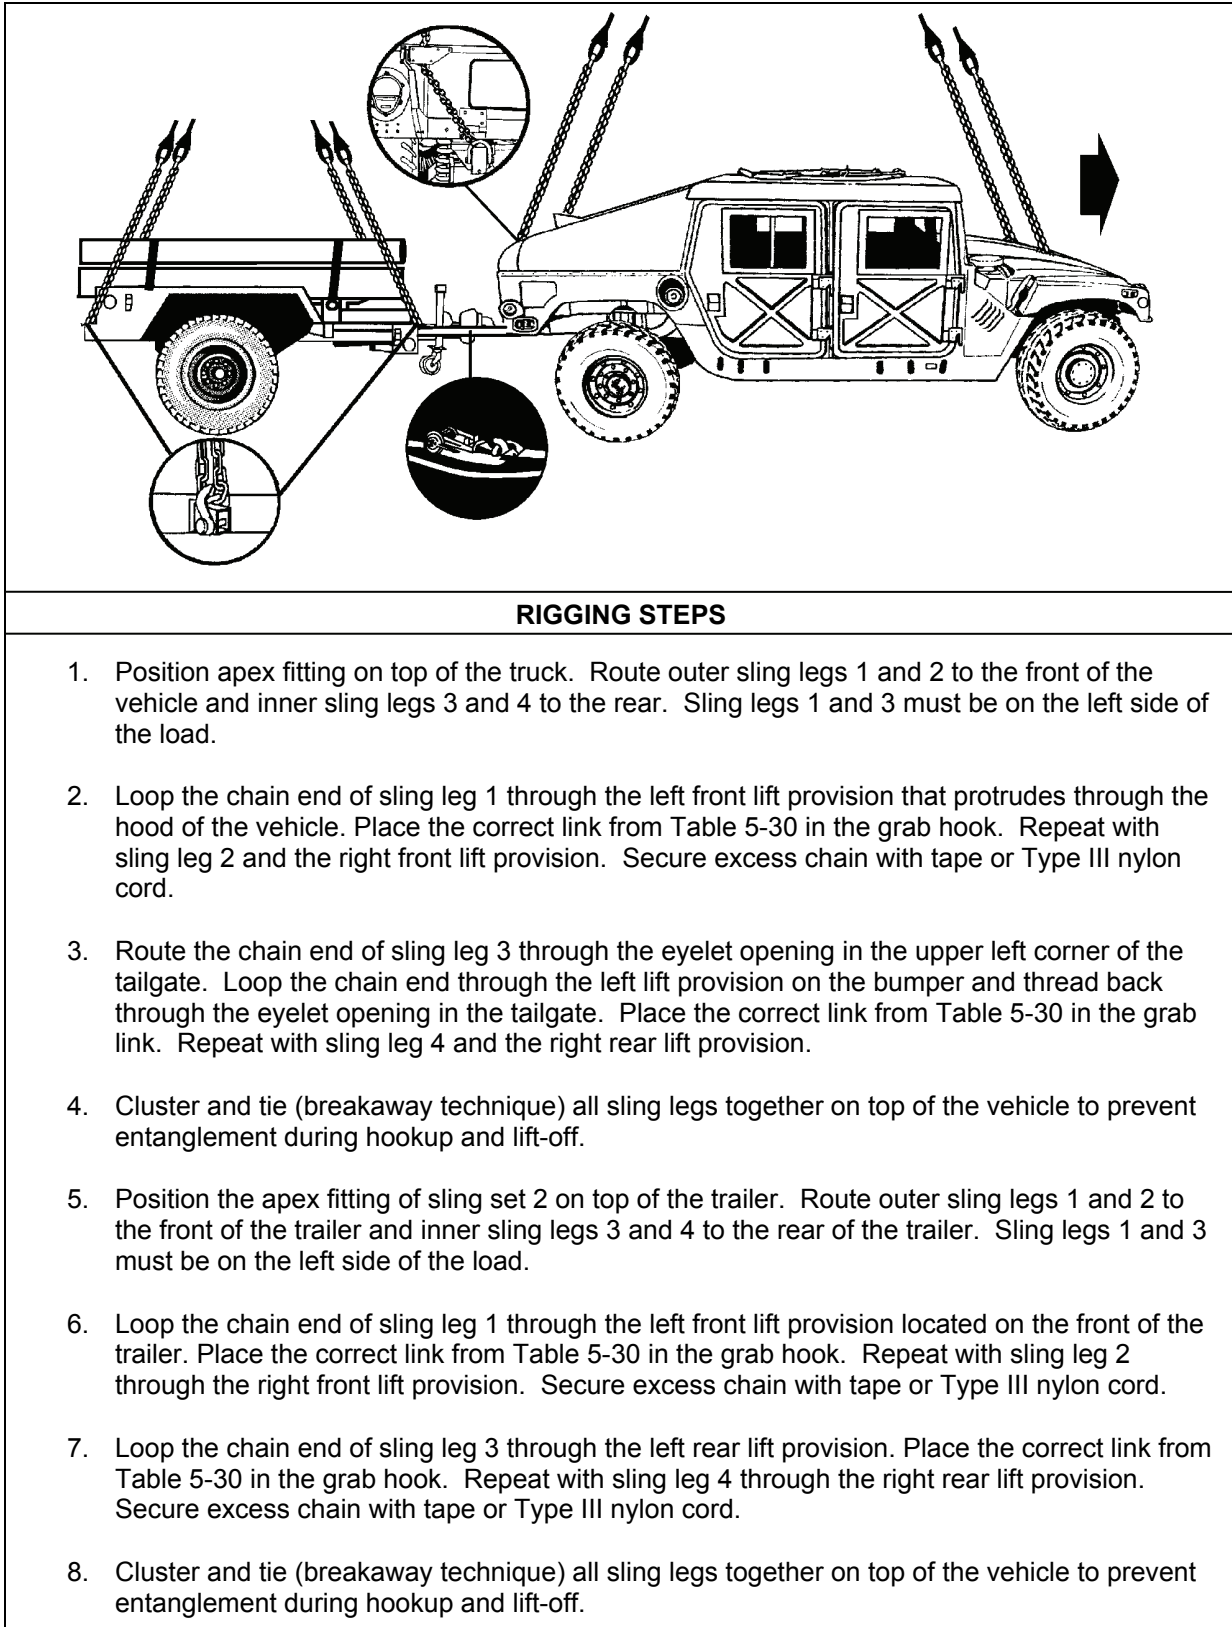

Figure 5-30. 1025A2 Truck, 1 1/4-Ton with Line of Sight Anti-Tank Reloader Crane and High Mobility Resupply Trailer
- **Rigging.** Rig the load according to the steps in Figure 5-30.